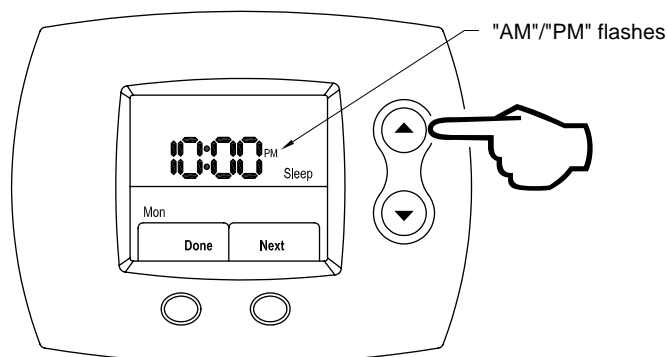

Figure 70
Step 23: Next, using the **UP** (index AM / PM) or **DOWN** (index AM / PM) buttons, select AM / PM, as shown in Figure 70.